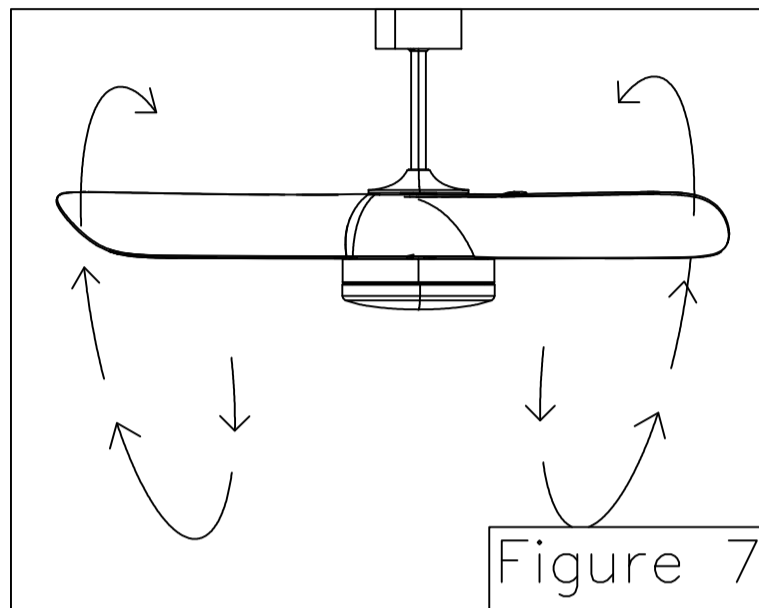

Figure 7
- Warm weather • (Forward) A downward air flow creates a cooling effect as shown in. (Figure 7) This allows you to set your air conditioner on a higher setting without affecting your comfort.